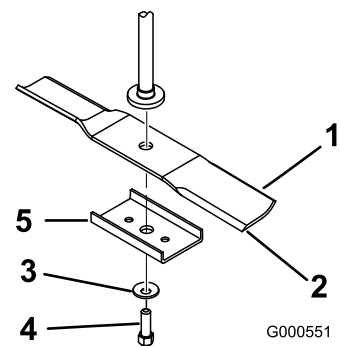

Figure 45
Hold the blade end using a rag or thickly-padded glove. Remove the blade bolt, curved washer, blade stiffener, and blade from the spindle shaft (Figure 45).
1. Install the blade onto the spindle shaft (Figure 45).
2. Install the blade stiffener, the curved washer (cupped side toward the blade) and the blade bolt (Figure 45).